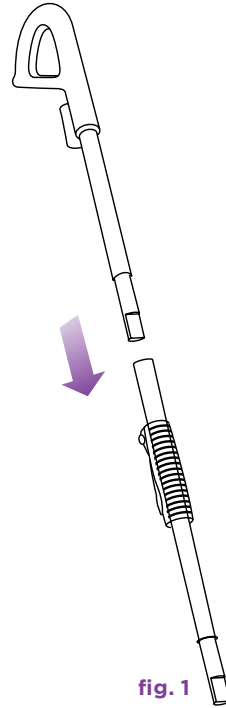

fig. 1
- 2 Slide the upper extension tube (the tube with the handle) into the lower extension tube (the short tube). Push the two extension tubes together in until you hear it click into place. (fig. 1)